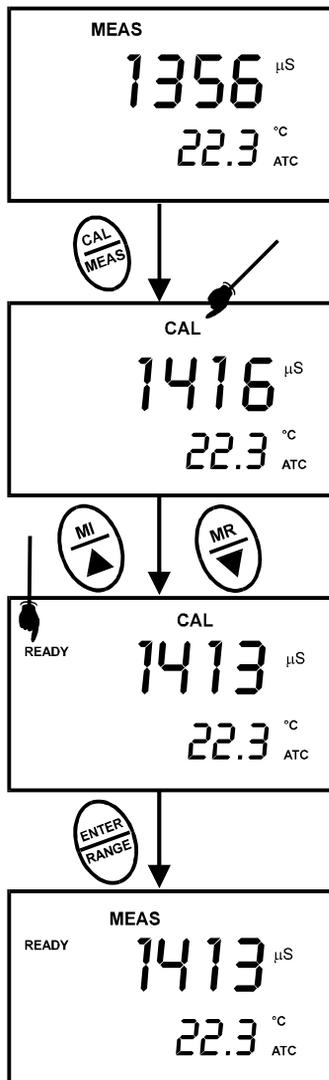

Figure 6 - Conductivity Calibration
7. Repeat steps 1 to 6 for other measuring ranges. See figure 6.